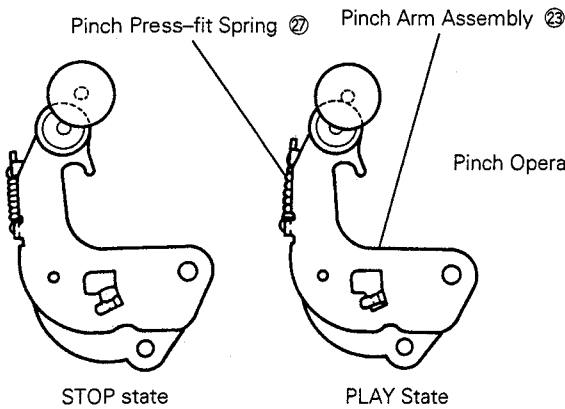

Fig. 14-15
However, for the pinch roller press-fit, the power is transmitted by cam ⑤ coaxial and synchronous with driving gear ④ from the bottom side to the top side of the mechanical chassis; cam ⑤ → pinch operating arm ⑧ (linked with pinch arm assembly and pinch press-fit spring ⑰ → pinch arm assembly ⑳ shown in Figs 14-15 and 14-16. When cam ⑤ rotates in the direction indicated by the arrow, pinch arm assembly ㉑ rotates in the press-fit direction.